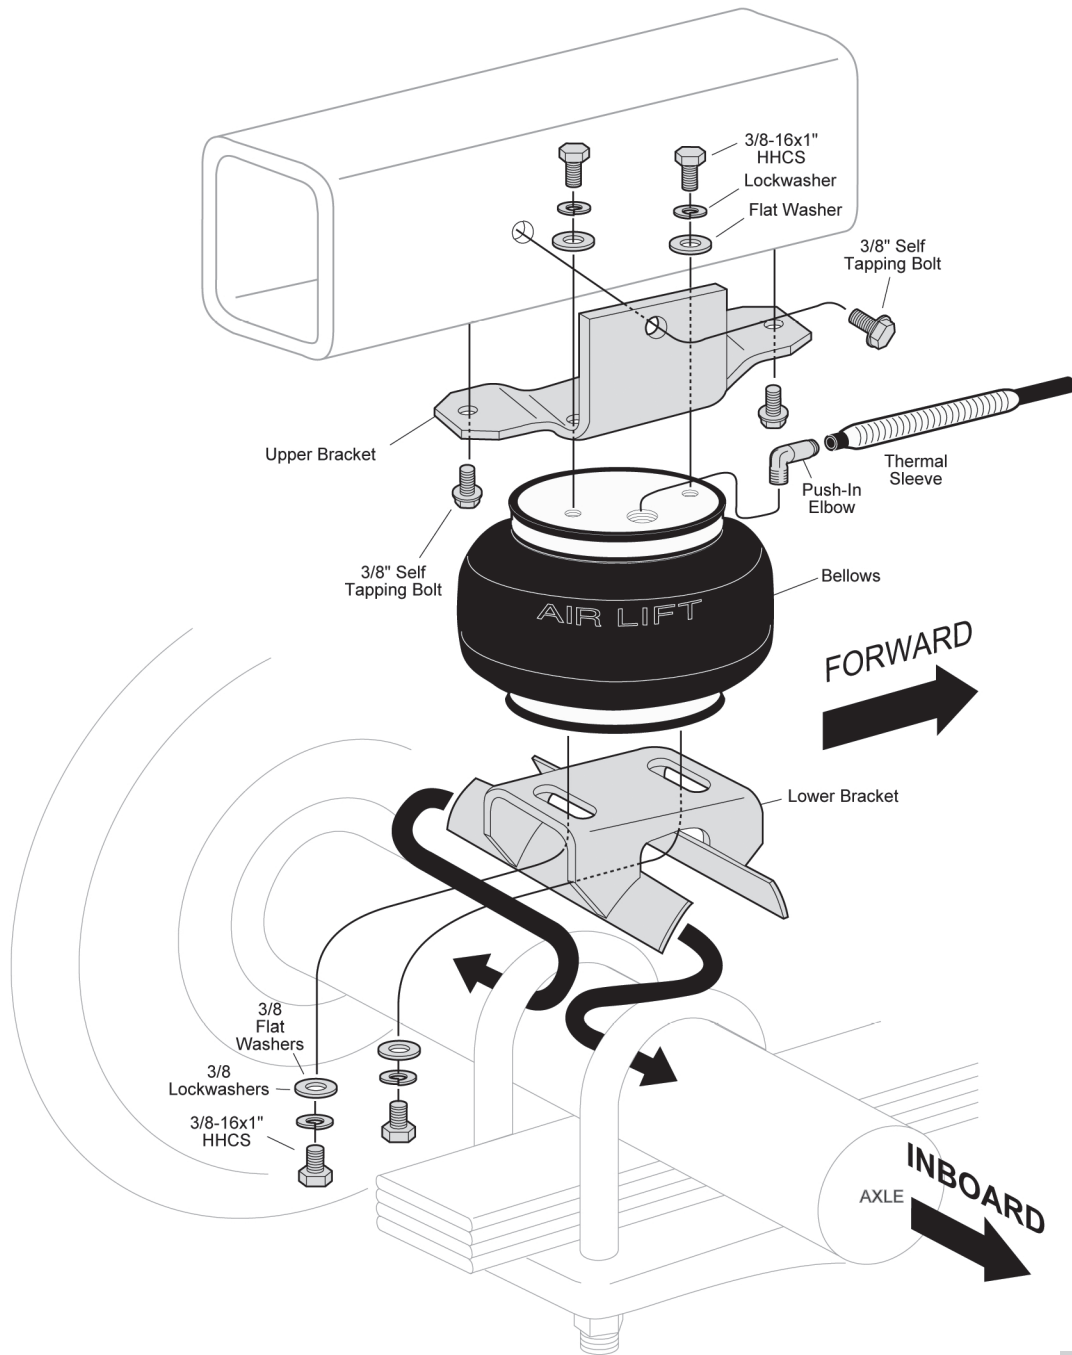

fig. 1
2. Loosely attach the lower bracket to the bottom of bellows with two 3/8”-16x1 hex head bolts, two 3/8” lockwashers, and two 3/8” flat washers. (Figure 1)
4. Attach the upper bracket to the top of the bellows with two 3/8”x16x1 hex head bolts, two 3/8” lockwashers, and two 3/8” flat washers. Torque to 15-20 ft.lbs. (Figure 1)
6. Remove the rubber jounce bumper. Set the air spring assembly on the axle housing, sliding the tabs of the lower mounting bracket under the u-bolts (Figure 1).
7. With the air spring align the air spring and mark the locations for drilling the holes for the upper bracket, one on each side of the bracket into the bottom of the square section frame rail and one on the inside of the frame rail (Figure 1).
To prevent air line from melting, keep it at least twelve inches from exhaust system. Use thermal sleeve on exhaust side (Figure. 1)